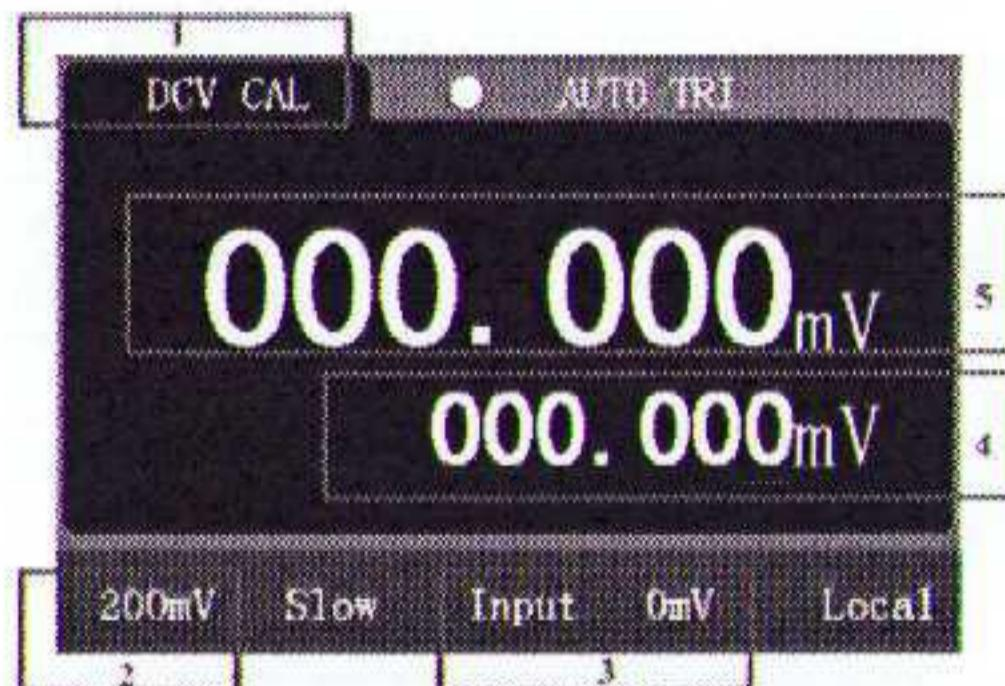

Figure 8-1 Calibration interface
1. Enter 0mV according to the prompt of zone 3 in Figure 8-1. Press Enter key after the measured value in area 5 is stable.
2. Enter -200mV according to the prompt of zone 3 in Figure 8-1. Press Enter key after the measured value is stable.
3. Enter 200mV according to the prompt of zone 3 in Figure 8-1. Press Enter key after the measured value is stable.
1. Enter 0V according to the prompt of zone 3 in Figure 8-1. Press Enter key after the measured value in area 5 is stable.
2. Enter -0.5V according to the prompt of zone 3 in Figure 8-1. Press Enter key after the measured value is stable.
3. Enter -1V according to the prompt of zone 3 in Figure 8-1. Press Enter key after the measured value is stable.